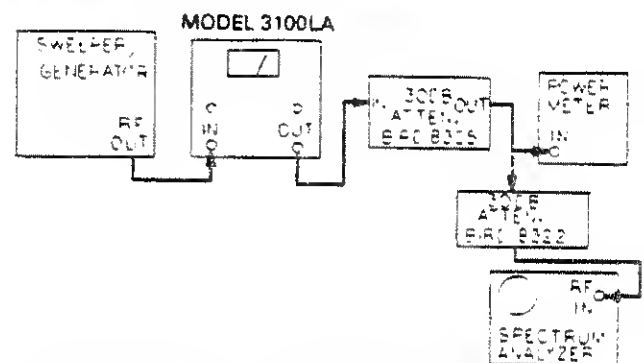

Figure 5-3. RF Output Distortion Test Set-Up
- Set-up the test equipment as shown in Figure 5-3.